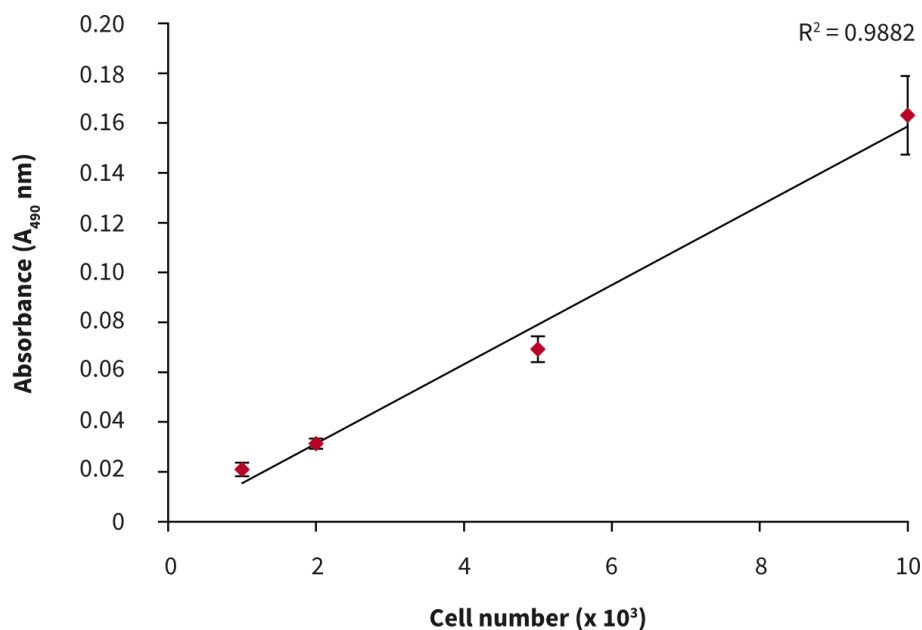

Figure 2. Cell number standard curve for PC-3 cells cultured on 384 well plates. $n = 12 \pm SD$.
3. After 24 hours of culture, a linear MTS assay response with increasing cell number was observed (Fig. 2).